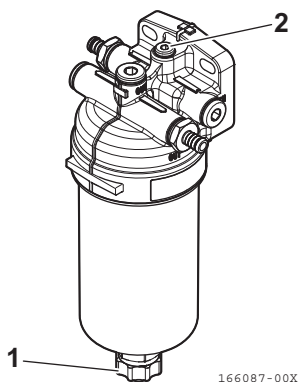

Figure 8
2. Loosen the drain plug (**Figure 8, (1)**) and the air bleed screw (**Figure 8, (2)**). After that drain off any water or dirt collected inside. Dispose of the collected water and dirt properly.